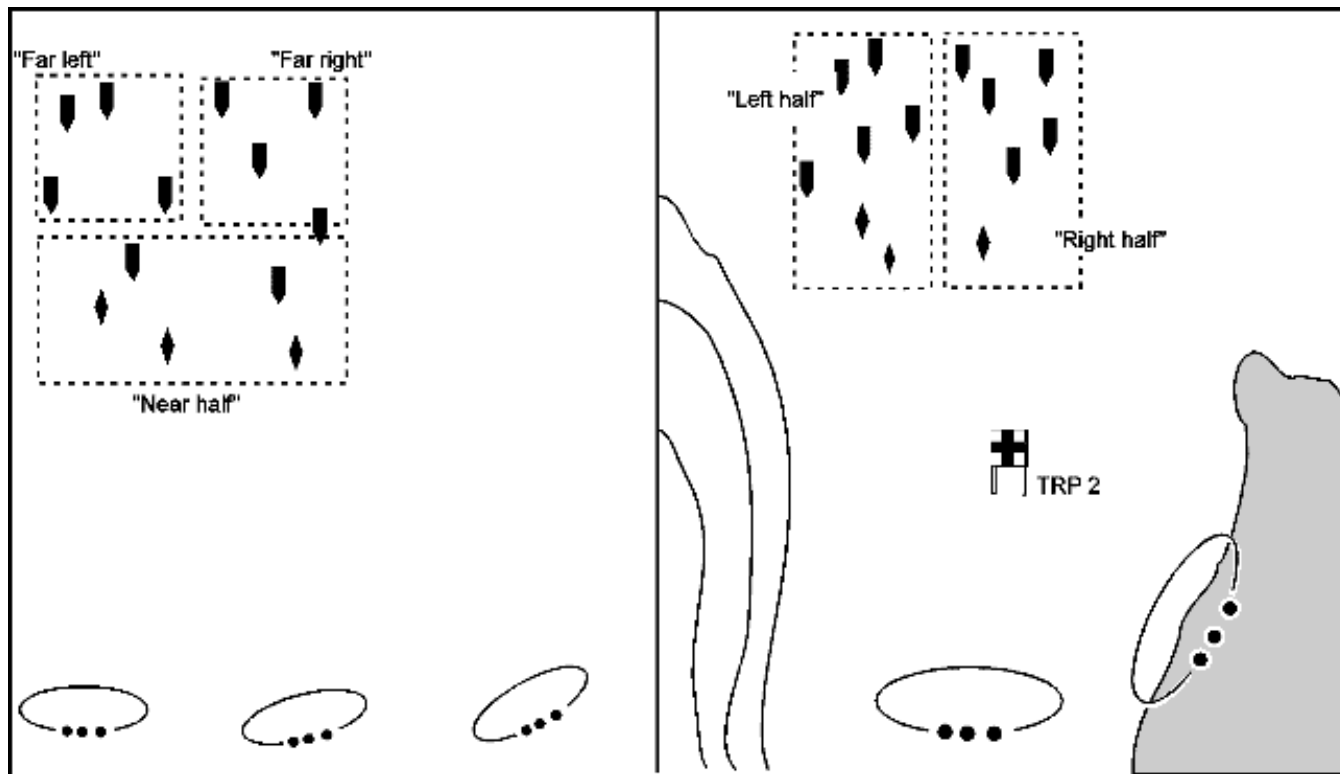

Figure 2-21. Examples of target array.
**Target array.** Target array permits the commander to distribute fires when the enemy force is concentrated and terrain-based controls are inadequate. This threat-based distribution measure is created by superimposing a quadrant pattern over an enemy formation. The pattern is centered on the enemy formation, with the axes running parallel and perpendicular to the enemy's direction of travel. Quadrants are described using their relative locations. The examples in Figure 2-21 illustrate the target array technique.